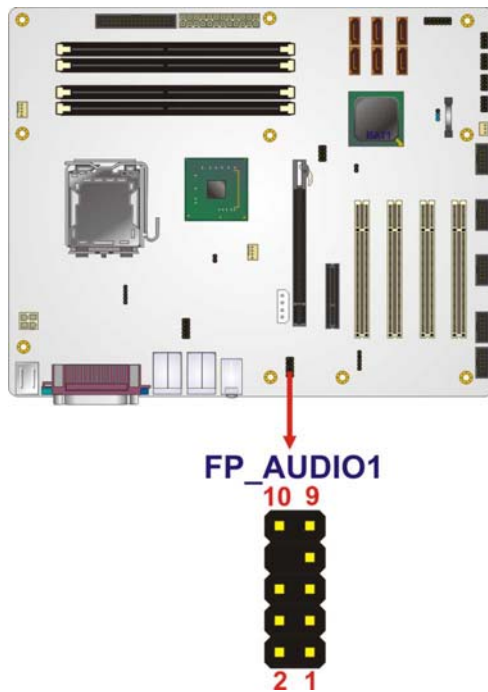

Figure 3-4: Audio Connector Pinouts
- CN Location:** See Figure 3-4